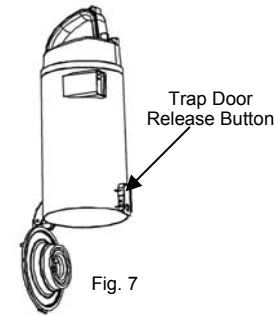

Fig. 7
2. To empty the dust cup container, hold the dust cup from the handle over a garbage container and press on the trap door release button that is on the back side of the dust cup container to release the dust cup bottom. (Fig. 7)